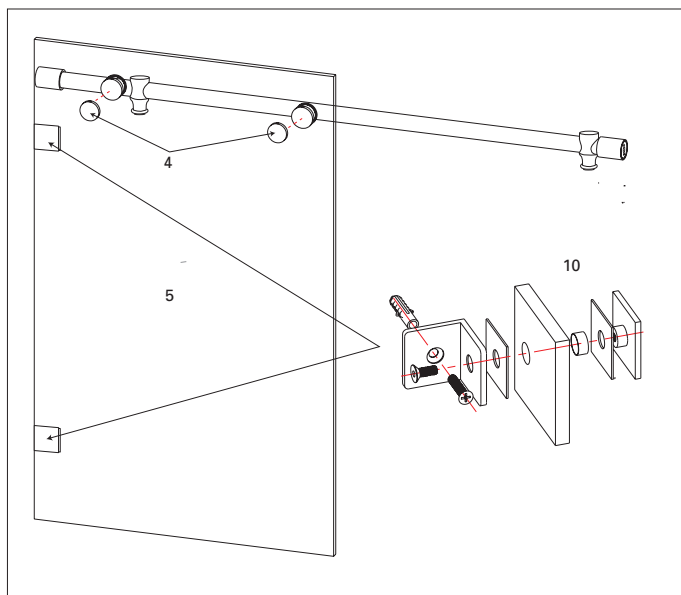

Figure 4
**NOTE: One of the two (2) Rail Stops (#3) and one of the Wall Brackets (#1) have already been pre-assembled on the 1" Round Tube Rail (#2). However, you will need to adjust them later during the installation process.**
- C. Attach the Glass-to-Wall Clamp (#10) to the Fixed Glass Panel (#5) (See Figure 4).